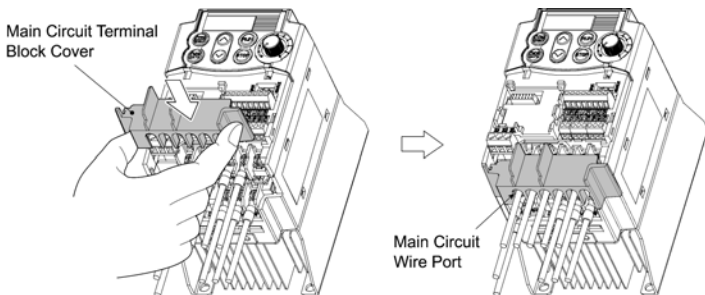

Figure 2.11 Putting Back the Main Circuit Terminal Block (TB) Cover
- 1) As shown in Figure 2.11, pull out the wires from the main circuit terminals in parallel.